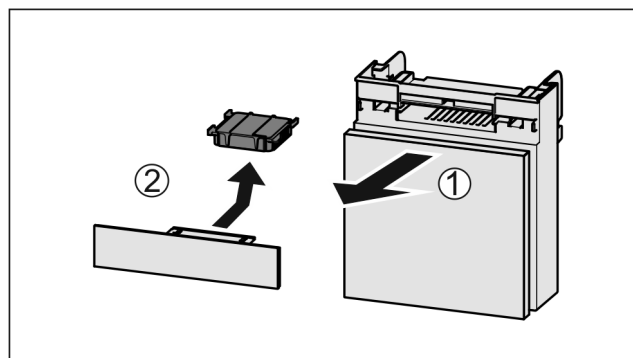

Fig. 38
- Pull out the compartment Fig. 38 (1).
- Remove the carbon filter Fig. 38 (2).